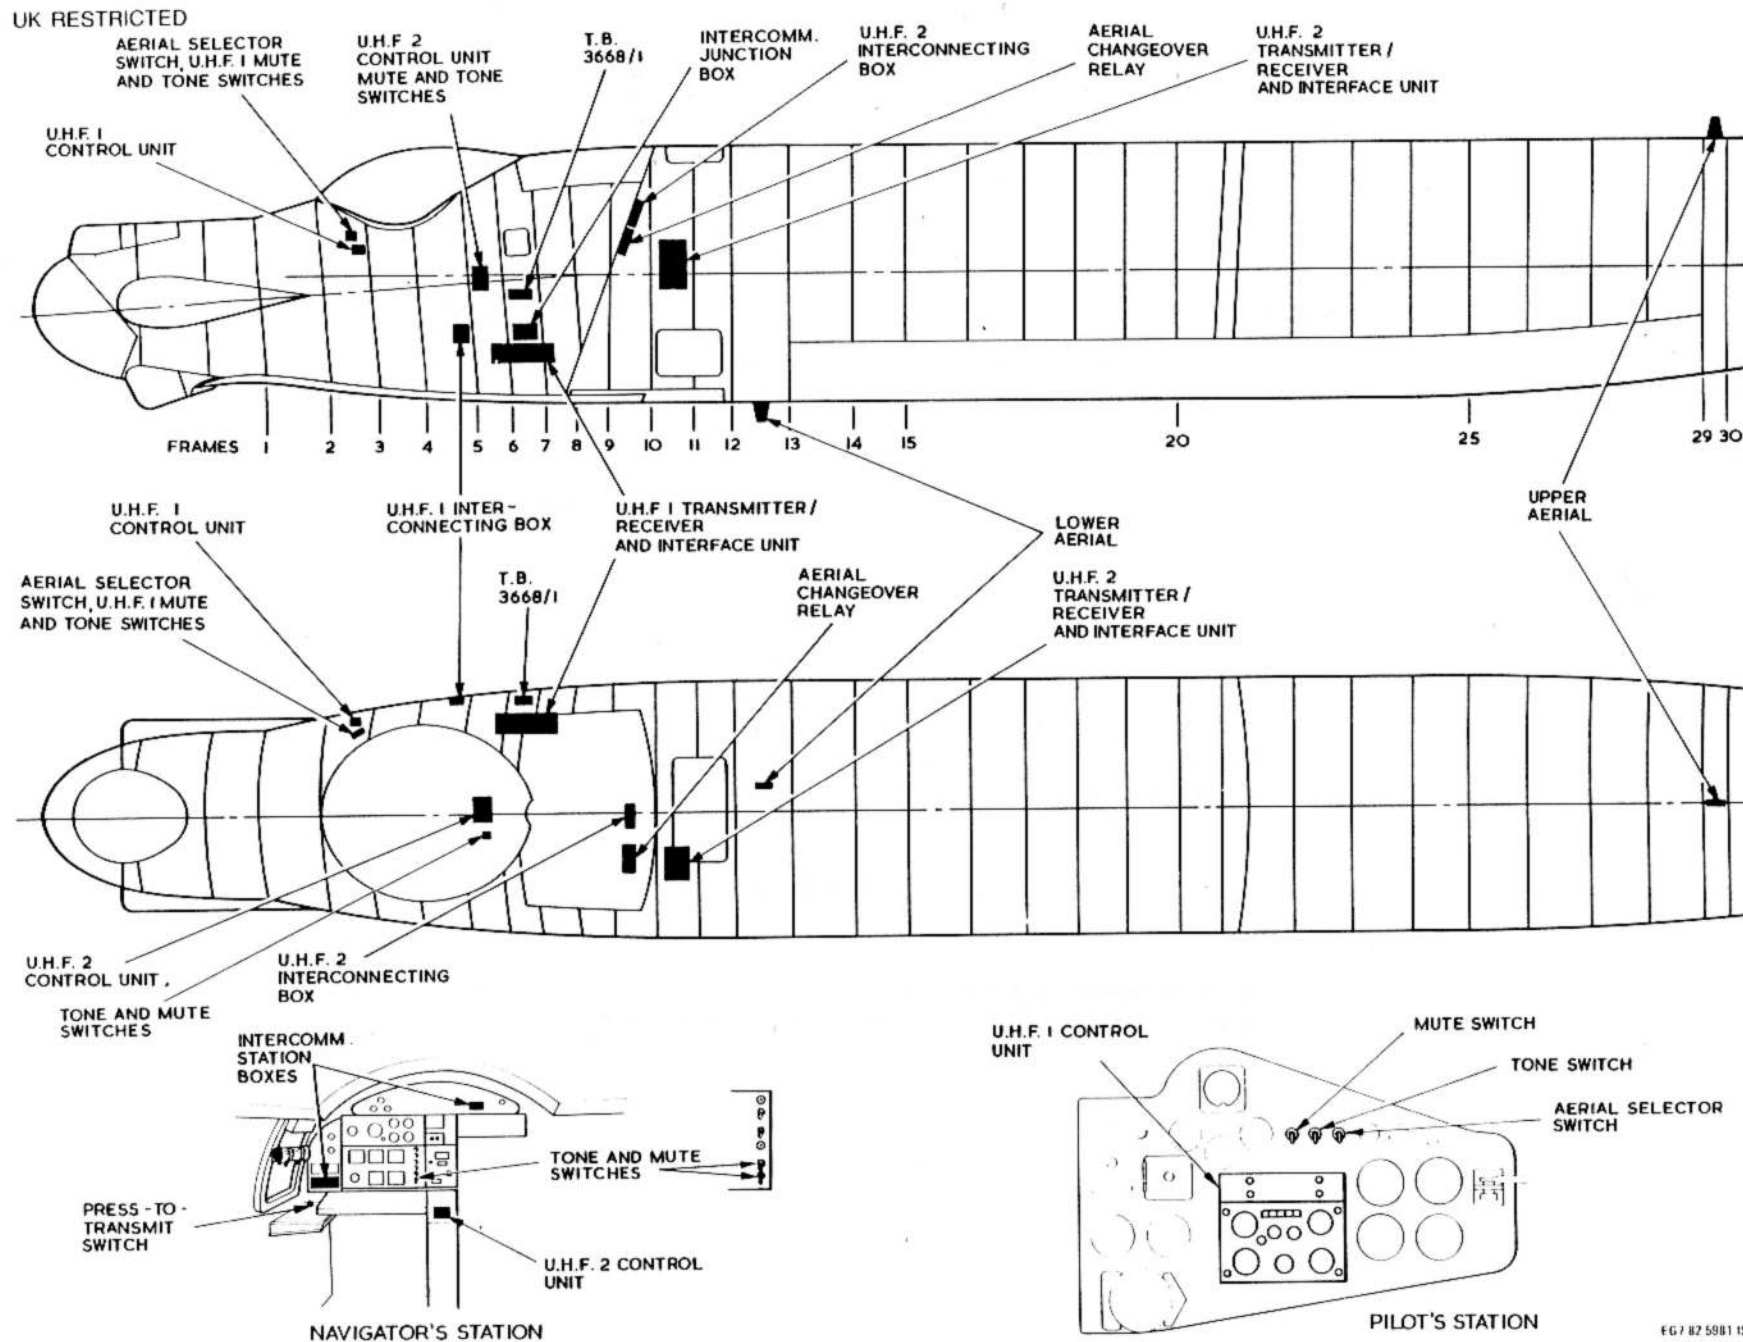

FIG. 1. LOCATION DIAGRAM - U.H.F. 1 AND U.H.F. 2 A.R.I. 23301
1. Communications in the U.H.F. range are provided by two A.R.I. 23301 installations referred to as U.H.F.1 and U.H.F.2. The locations of the main items are shown in fig. 1. Connector and cable assembly details are given in Table 2.